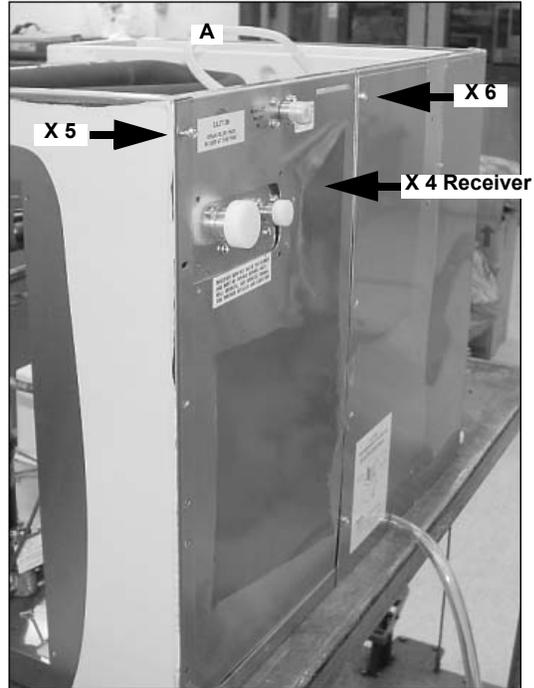

Figure 43.
Attach the water line (A) to the Heat Exchange Suction Line with the 7" wire tie. (Figure 43).